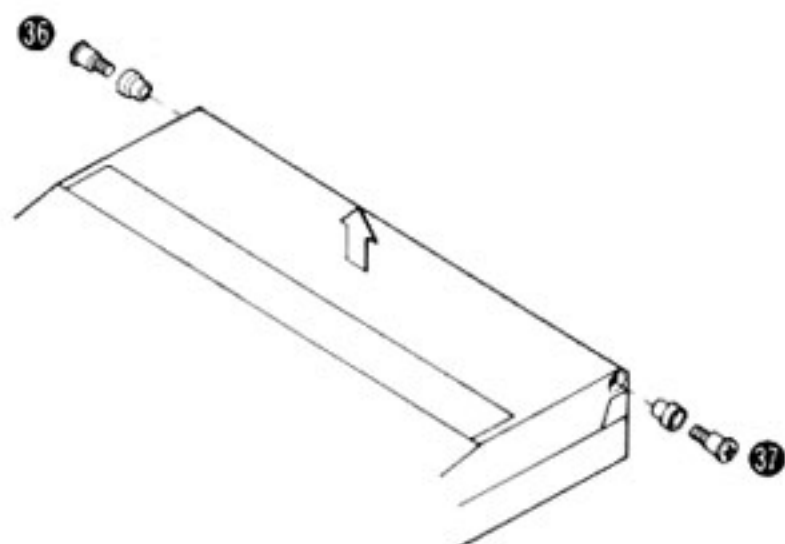
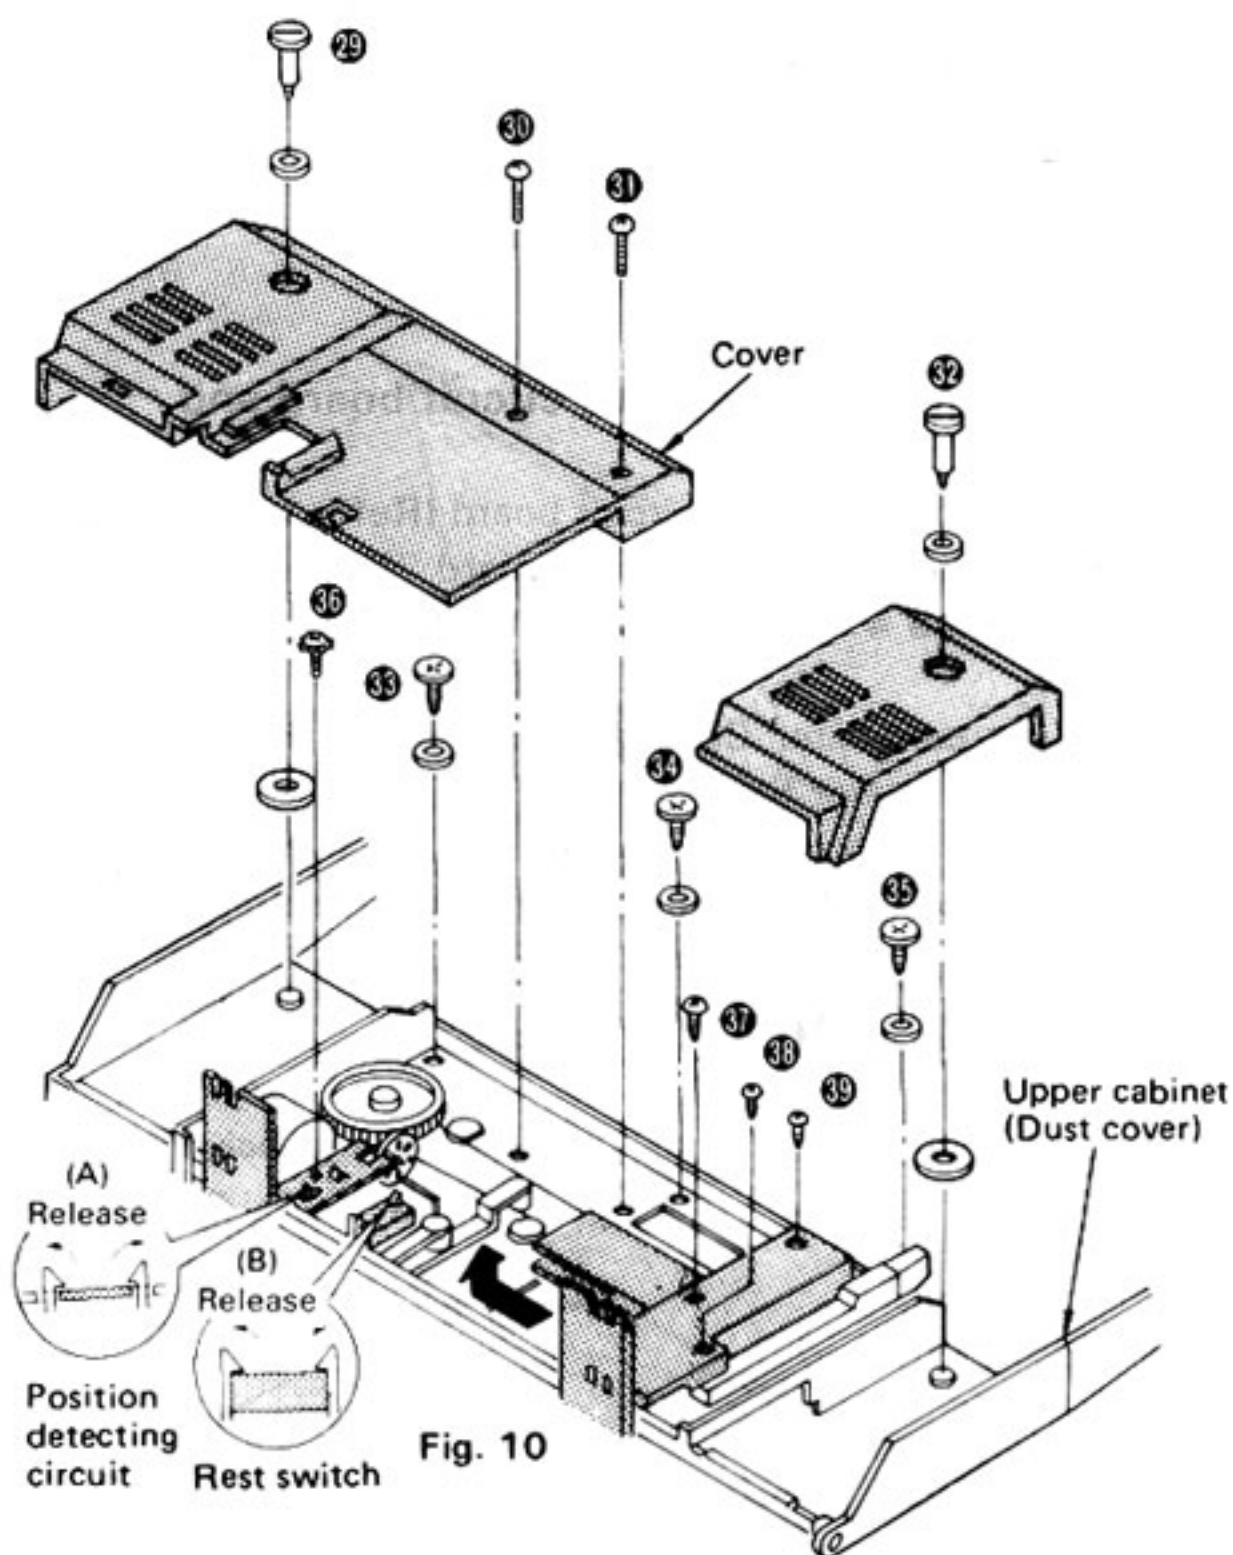

Fig. 11
Fig. 10
2. Remove the 4 setscrews (Fig. 10: 29~32).
3. Remove the 5 dust cover setscrews (Fig. 10: 33~35) and Fig. 11: 36, 37).
2. Remove the tonearm position detecting circuit board setscrew (Fig. 10: 36).
3. Release the each 2 claws and remove the tonearm position detecting circuit board and the rest switch (S601). (Fig. 10: (A) (B))
2. Remove the tonearm cover setscrew (Fig. 10: 37 ~ 39) and tonearm cover.